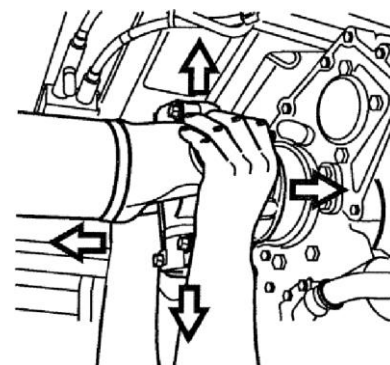

Figure 2.1
5. All connections should be manually checked for any visual or tactile play shown in **Figure 2.1**. To detect play, check every connection, and in all directions. If any play is found, the assembly operation must be repeated with different types of retaining rings (thicker or thinner), depending on the type of play. Play may cause imbalance, vibration and noise.
6. All cross-piece bearings should be checked by hand in all directions to prevent play (**see Figure 2.1**). Play in the cross-piece create vibration, noise and balance changes.